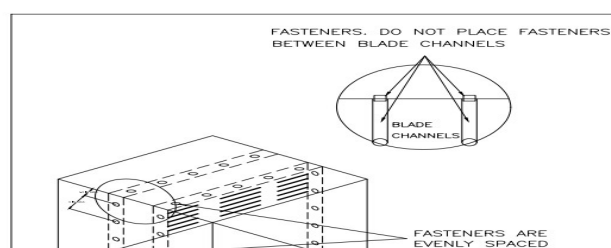

Figure 6
- Secure damper to sleeve on maximum 1.6 Inch at the corners see figure 6